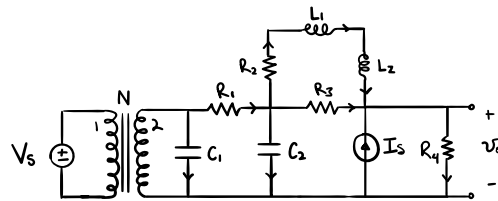

Figure exe.4: a circuit diagram.
- a. The electronic system of Fig. exe.4, voltage and current sources, and transformer with transformer ratio N .